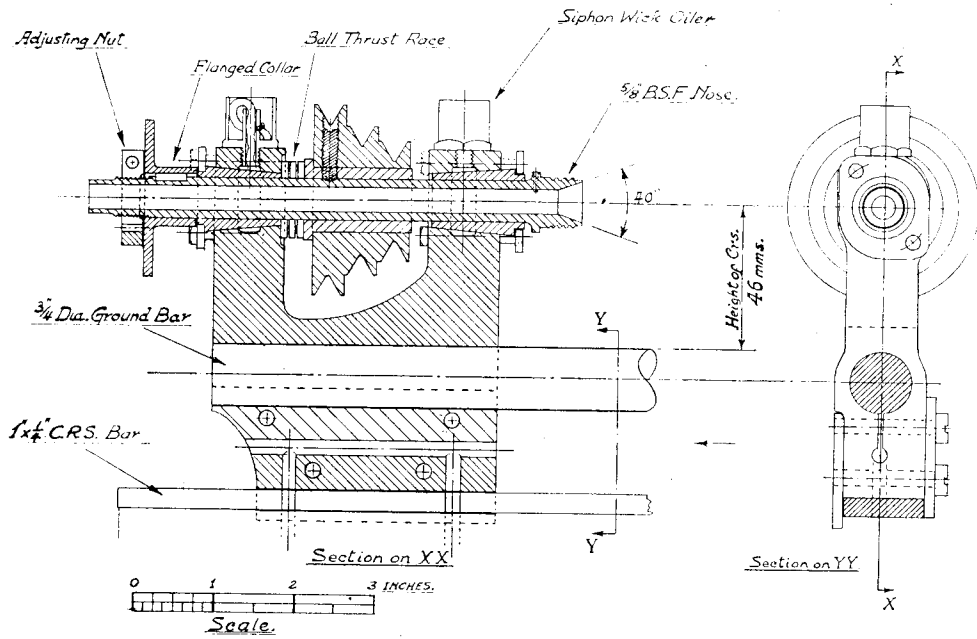
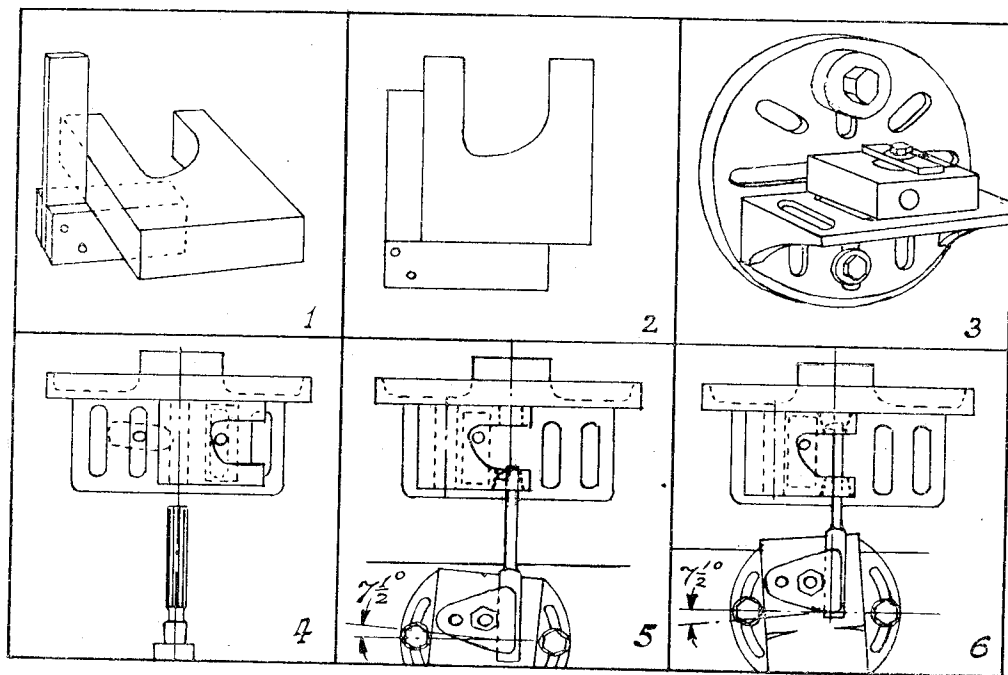

Fig. 1
Fig. 2
The construction of the headstock is shown in Fig. 1. It will be seen to consist of a rectangular block of aluminium alloy $4\frac{1}{2}$ in. \times $3\frac{1}{2}$ in. \times $1\frac{1}{2}$ in., whose faces were reasonably true and square with each other. The problem was how to bore the headstock bearings and the tunnel for the $\frac{3}{4}$ -in. ground bar in strict parallelism, and how further to attach the rectangular bar for the bed rigidly to the headstock in perfect alignment with the round bar. Since the rectangular bar is only required to contact the saddle and tailstock by its narrow vertical edges, it is only necessary to be perfectly parallel to the round bar when viewed in plan.
material was tough, probably duralumin. Two faces were left as reference planes, one the back face of the headstock as viewed in Fig. 1, the other being the rear face of the block when viewed from the mandrel nose. These faces were filed and scraped to be flat and perpendicular to each other and to the bottom face of the block as shown in Fig. 2 (1) and (2). The block was now set up on an angle-plate on the faceplate
as shown in Fig. 2 (3), making sure that the two reference planes were in contact with angle-plate and faceplate until in position for drilling and reaming the tunnel for the $\frac{3}{8}$ in. diameter ground bar, as sketched in Fig. 2 (4). Now without moving the angle plate, the block is moved into the position necessary for boring the headstock bearings, and so long as the reference faces of the block are in firm contact with angle-plate and faceplate, the axis of the bearings must be parallel to the bed.
The precise arrangement of the headstock bearings will be seen in Fig. 1. Since no grinding facilities were available, a hardened steel mandrel was out of the question, so it had to be a silver-steel mandrel running in split bronze bearings. To preserve concentricity these were made of conical pattern drawn by adjusting screws into conical seatings in the headstock. The 15 deg. tapered seatings were machined by the procedure outlined in the thumbnail sketches in Fig. 2 (5) and (6). The alignment of the 1-in. \times $\frac{1}{4}$ -in. bar was ensured very simply. The lower $1\frac{1}{16}$ in.